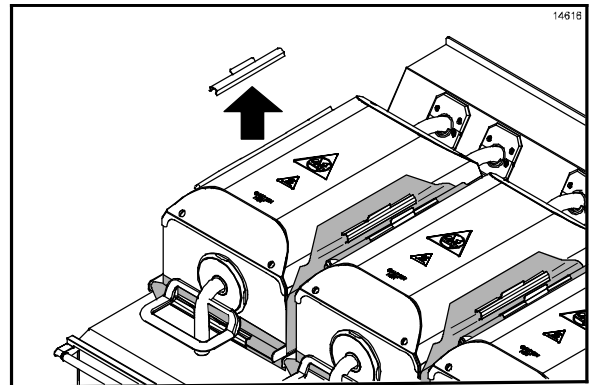

Figure 45
12. Remove the release sheet locking clips, the bars, and the upper and lower release sheets. Wash and rinse the clips and bars in the 3-compartment sink. If necessary, soak them in a hot solution of **SolidSense APSC** to remove carbon accumulation. (See Figure 45.)